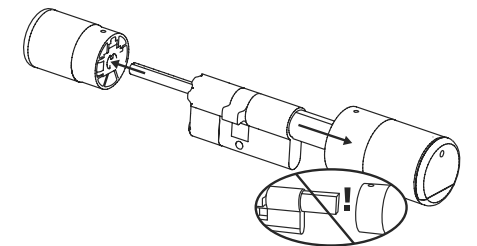

Fig. 3
③ Pull off the knob on the outside completely and pull the knob on the inside as far back as possible (Fig. 3).